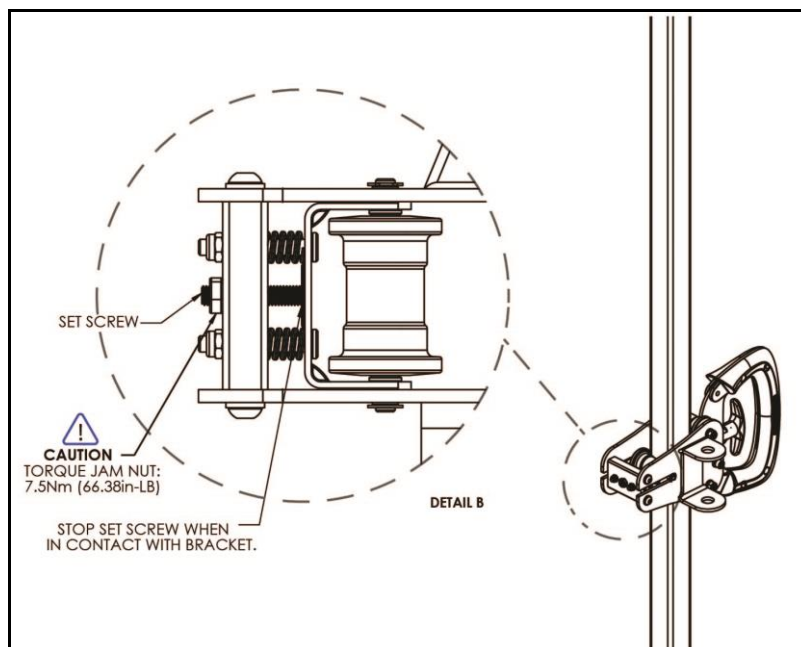

Fig. 12
12. Engage the center set screw stopping system to prevent excess slop from developing by turning the set screw clockwise until it comes in contact with the roller holding bracket (Fig. 12 – Det. B). Once the set screw comes in contact with the bracket – turn the secondary lock jam nut clockwise until it locks the set screw in place and prevents it from backing off.